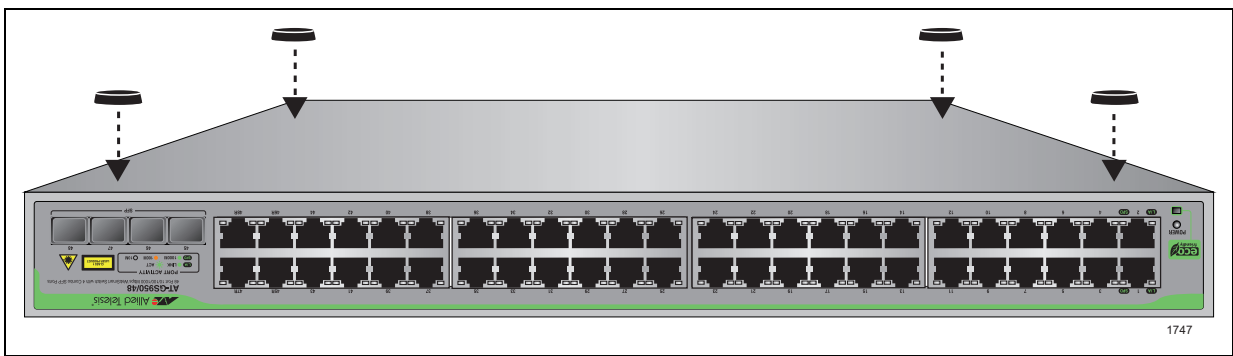

Figure 5. Attaching the Rubber Feet
2. Turn the switch over and attach the four rubber feet to the bottom of the switch as shown in Figure 5.